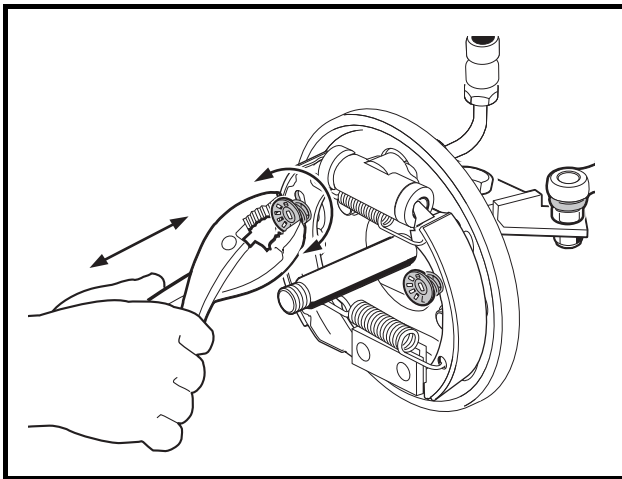

Figure 6-4 Rotate Front Spring Cups
2. Use pliers or a brake tool to rotate the cup washer and compression spring assembly 90° and remove the cup and spring from each brake shoe (**Figure 6-4, Page 6-9**). **See following NOTE.**
5. Compress the remaining spring and cup washer (12) onto the pin of the adjuster (3) (**Figure 6-1, Page 6-2**) and rotate 90° to secure the brake shoe (**Figure 6-4, Page 6-9**).